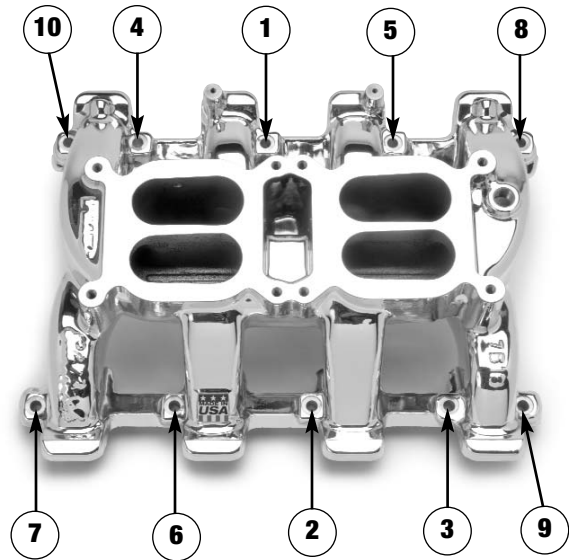
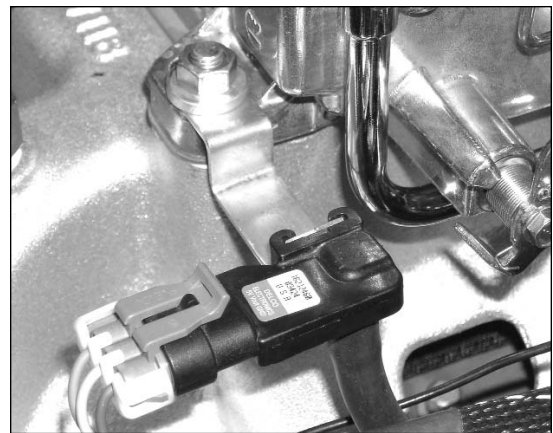
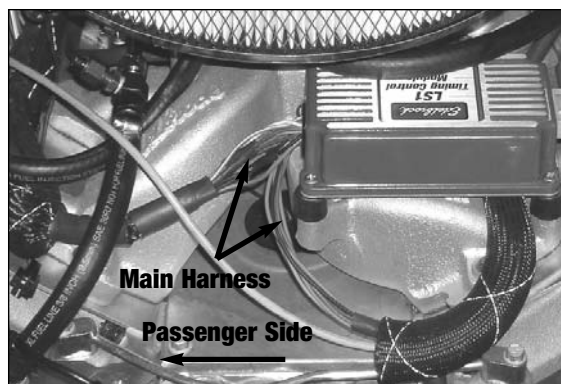

Figure 1 - Intake Manifold Tightening Sequence
Figure 3 - Map Sensor and Bracket
Figure 4 - Timing Control Module Mounting
1. (**Note:** Use only original equipment (GM P/N 12533587) O-Ring type gaskets when installing this intake manifold). No gasket sealer is required when using the OEM type gaskets. Install eight of the supplied 6mm x 50mm hex head bolts and 1/4" AN washers, into all of the manifold bolt holes except for the two rear driver's side bolt holes (hand tighten only). Using the remaining two 6mm x 50mm bolts and AN washers, attach the GEN III Throttle Bracket Base to the two rear driver's side manifold bolt holes (hand tighten only). Following the torque sequence in **Figure 1**, torque all manifold bolts to 11 ft/lbs.
3. Apply a bit of liquid Teflon thread sealant to the threads of the supplied 1/8" NPT to 1/4" hose fitting and install the fitting into the 1/8" NPT hole in the passenger side of the plenum (**See Figure 1**). Install your carburetors (Use only recommended carburetors for best performance) and using one of the passenger side carburetor stud/nuts, attach the MAP sensor and bracket to the carburetor (**See Figure 3**). Connect the sensor to the fitting with the supplied 1/4" hose.
1. Using the supplied hardware included with the Timing Control Module, attach the module to the four #10-32 mounting holes on the Performer RPM intake manifold (**See Figure 1**). Mount the module so that the main harness will face towards the passenger side (**See Figure 4**).